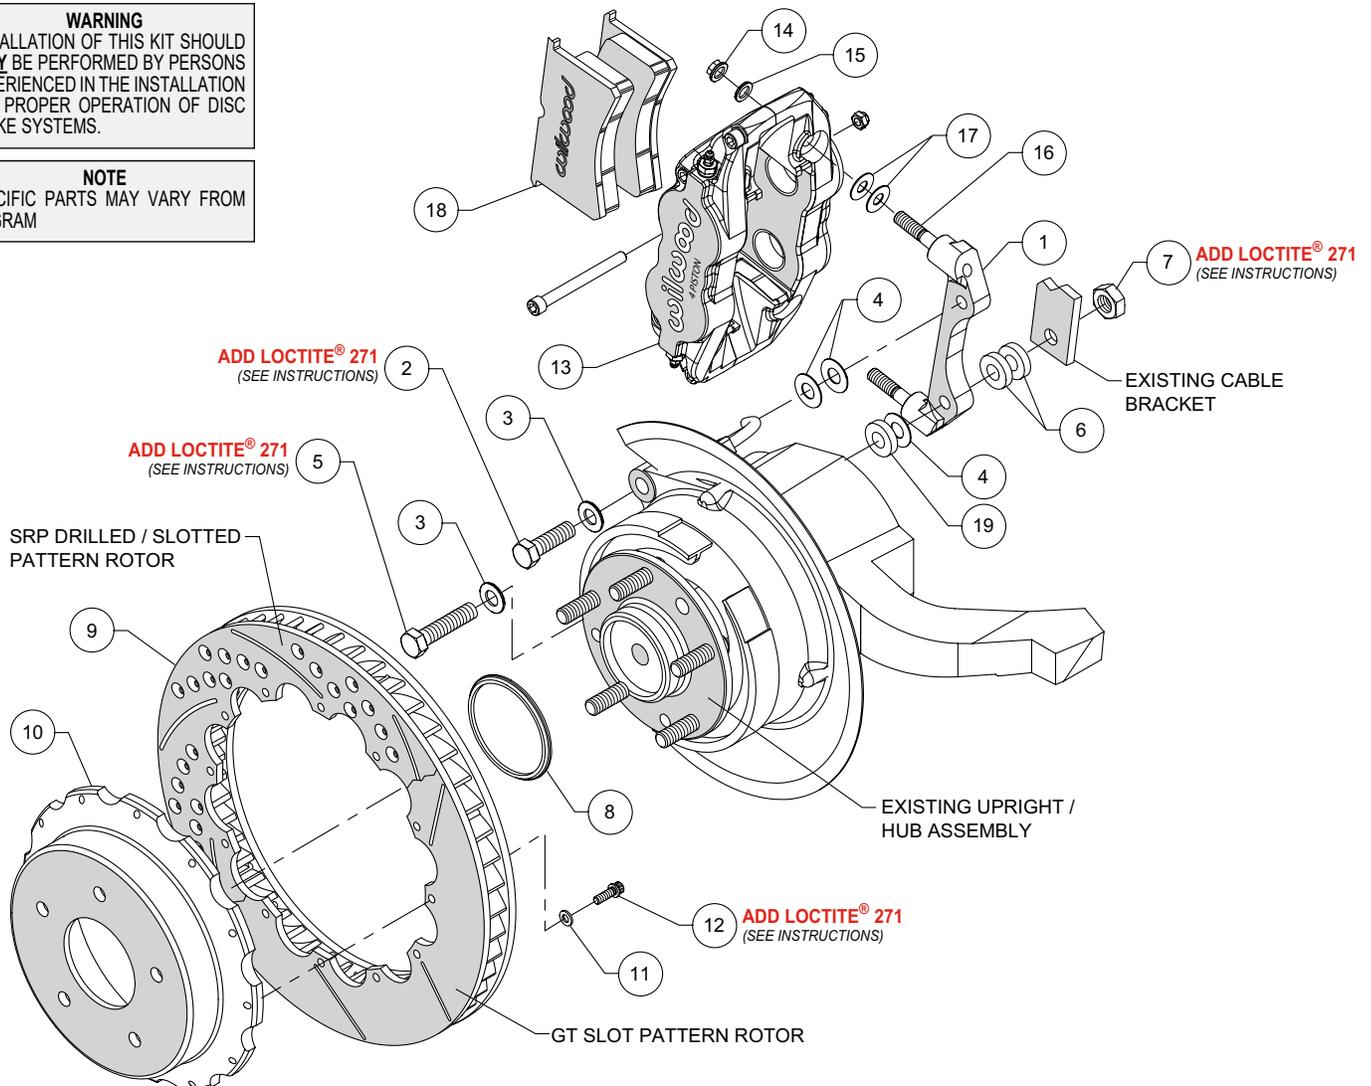
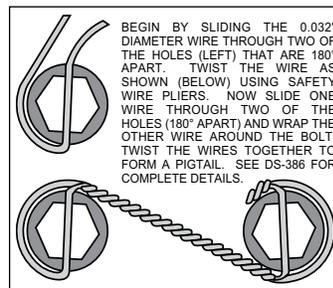

Figure 1. Typical Installation Configuration
Figure 3. Safety Wire Diagram
NOTE: Numbers in parenthesis refer to the parts list and Figure 1 on the preceding pages.
- The caliper mount bracket (1) should initially be installed with clean, dry threads on the mounting bolts. Orient the bracket as shown in Figure 1, and install using bolt (2), washer (3) and two shims (4) for the top mounting hole. Secure the bottom of the bracket using bolt (5), washer (3), .145 thick spacer (19), and one shim (4) as shown in Figure 1 and Photo 1. Temporarily tighten the mounting bolts. **NOTE:** The bracket must fit squarely against the mount bosses on the upright. Inspect for interference from casting irregularities, machining ridges, burrs, etc. Later, after the caliper alignment has been checked, the mount bolts will be secured using red *Loctite*® 271.
- Orient the rotor (9) and the hat (10) as shown in Figure 1 and Photo 2. Attach rotor to hat using bolts (12) and washers (11). Apply red *Loctite*® 271 to the bolt threads and torque to 140 **in-lb** using a criss-cross pattern. For an added measure of security, the bolts may be safety wired using standard 0.032 inch diameter stainless steel safety wire as shown in Figure 3. Please refer to Wilwood's data sheet DS-386 (available at www.wilwood.com/Pdf/DataSheets/ds386.pdf) for complete safety wire installation instructions.
- Initially place two .035" thick shims (17) on each stud (16) as shown in Figure 1 and Photo 4. Mount the caliper (13) onto the bracket (1) using lock nuts (14) and washers (15), Figure 1 and Photo 5. Temporarily tighten the lock nuts and view the rotor through the top opening of the caliper. The rotor should be centered in the caliper, Photo 6. If not, adjust by adding or subtracting shims (4) between the bracket and the upright. Once the caliper alignment is correct, remove the bracket mounting bolts one at a time, apply red *Loctite*® 271 to the threads, and torque to 60 ft-lb.